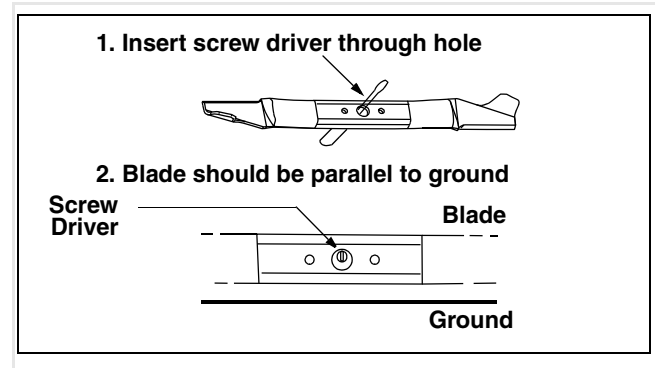

Figure 13
- The blade can be tested by balancing it on a round shaft screwdriver. See Figure 13. Remove metal from the heavy side until it balances evenly. It is recommended that the blade always be removed from the adapter for the best test of balance.